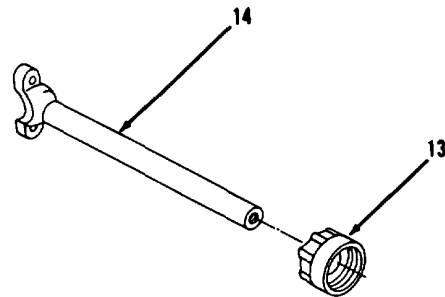

Figure 17-6.
8. Remove crown (13) from rod assembly (14, Figure 17-6).
1. Position crown (13) on rod assembly (14, Figure 17-6).